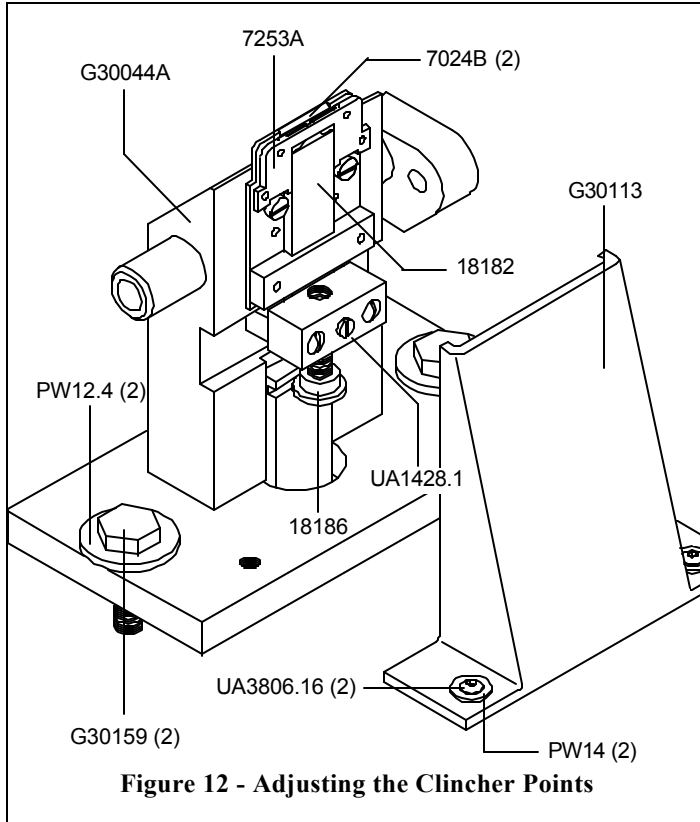
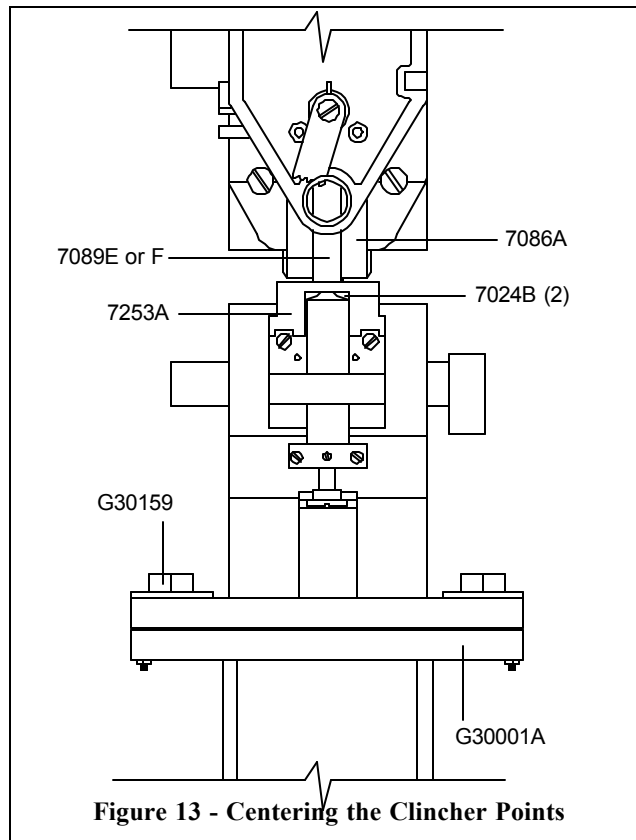

Figure 12 - Adjusting the Clincher Points
Figure 13 - Centering the Clincher Points
Adjusting the Clinchers (Figure 12)
If the staples are not clinching properly the Clincher Points (7024B) will need to be adjusted within the Clincher Plate (7253A). To check this, cycle the machine manually and stop the machine at the point of clincher activation. If the Points are positioned too high or too low, refer to the instructions which follow and **Figure 12** for an explanation. Loosen and remove the two (2) Screws
If the stitch clinches properly but the legs are angled away from its crown, the Clincher Plate (7253A) may not be aligned with the Driver (7089E or F). Refer to both **Figure 12** and **Figure 13** and the following instructions for